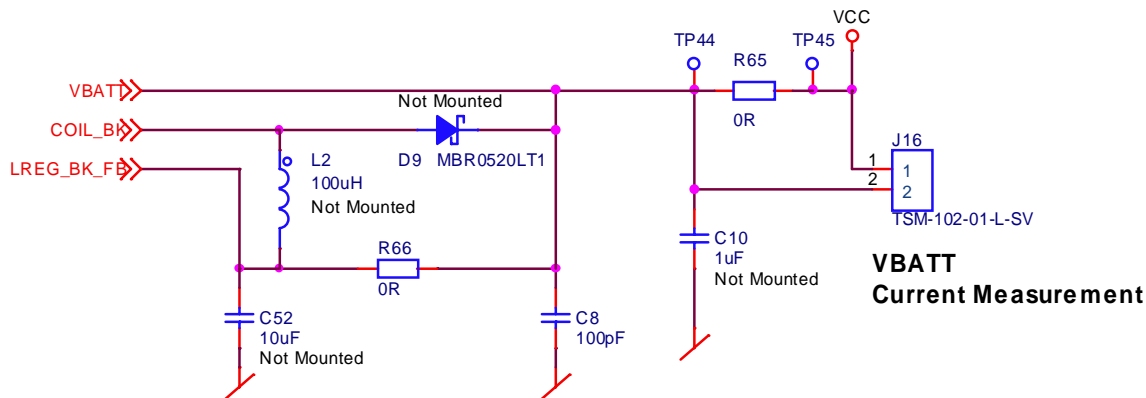

Figure 3-7. MC1322x Main Power Connection
Figure 3-7 shows the VCC connection at the MC1322x device. The PCB is supplied with the 0-ohm R66 component mounted, which is the simple non-regulated configuration. To allow use of the buck regulator:
- Total current to the MC1322x - reference Figure 3-7. R65 can be removed and current can be measured through jumper J16.